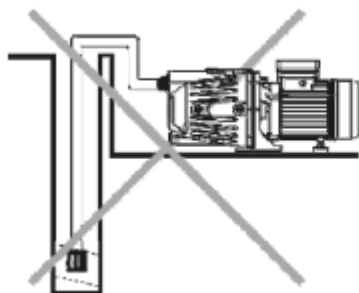

Fig. 1
4. Make sure that the rubber pipe you use in the suction line is not too soft. The foot valve should be placed 30 cm from the water bottom to avoid sucking in mud and sand. All joints of the inlet and outlet pipes must be tightly sealed. Keep the use of connecting elbows to a minimum, otherwise no water is pumped (Fig. 1).